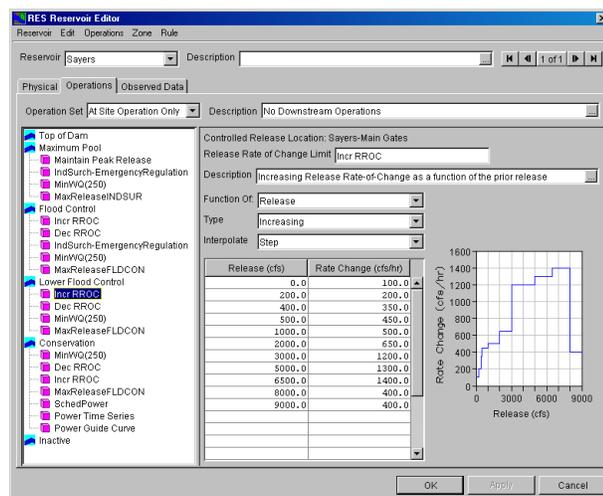

Figure 11.16 Reservoir Editor--Operations Tab: Example of Completed Release Function Rule
- Define the function using the table in the release function rule editor (see Figure 11.16). You can either copy and paste data from a spreadsheet application or type in the values manually.
An example of a completed **Release Function** rule is shown in Figure 11.16. When you have finished entering data for the Release Function rule, be sure to click the **Apply** button before moving on to the next rule.